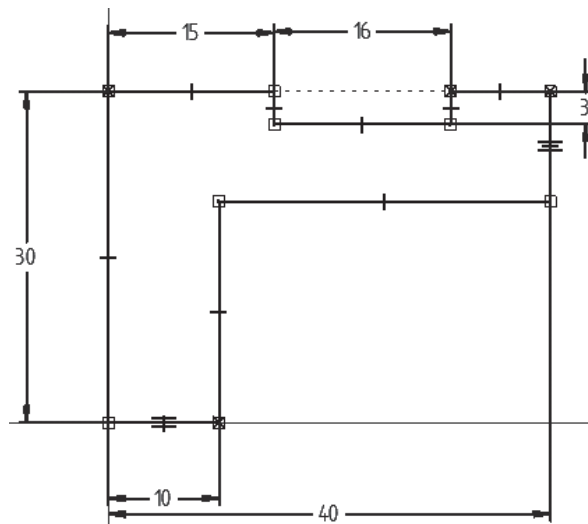

Figure 5-56 Dimensioned profile for the base feature
3. Add the required relationships and dimensions to the sketch, as shown in Figure 5-56.